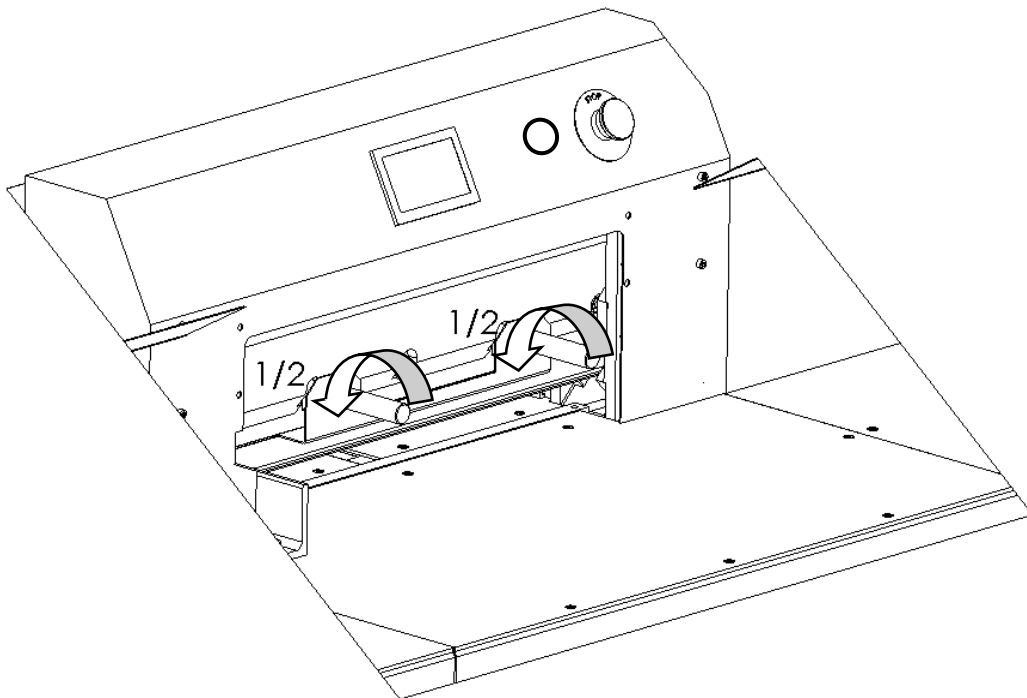
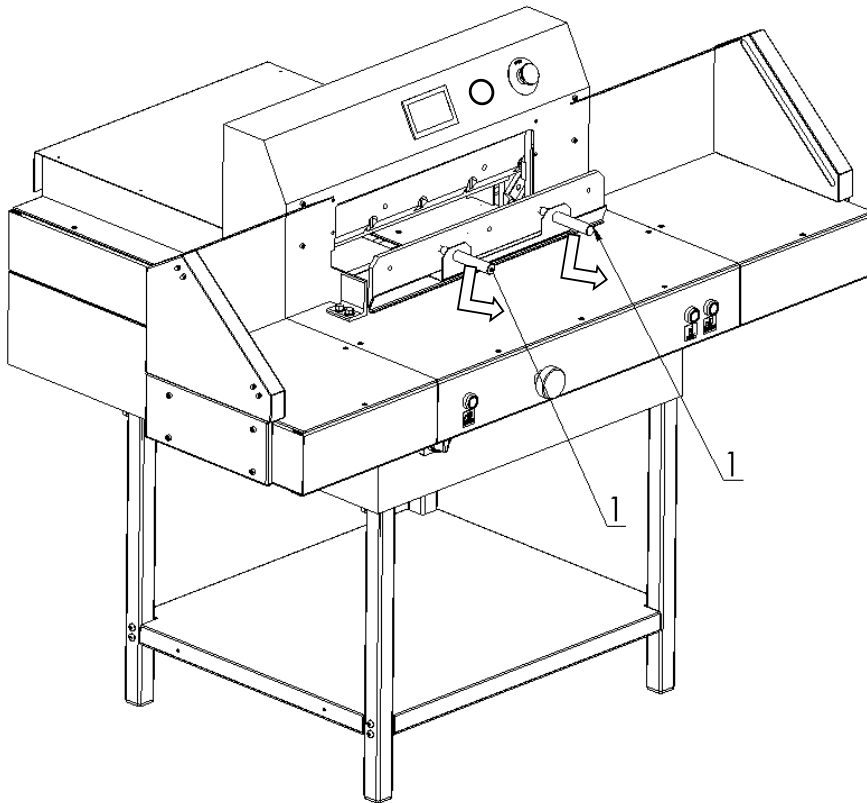
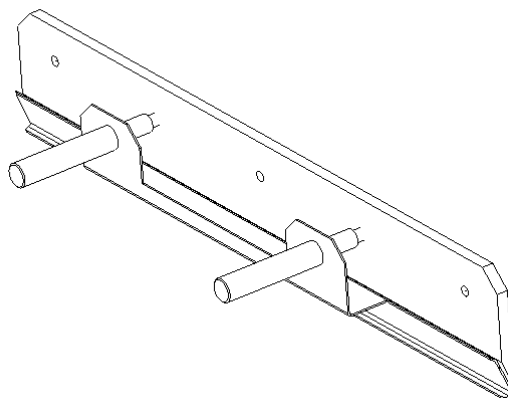

Figure 26.
Figure 27.
Figure. 28a. Knife in the transport handle
8.1.1.12 holding the transport handles release the clamp by turning them 1/2 turn at a time to the left (fig 26) and carefully pull the knife down (fig 27). Take the removed knife into the special protective packaging (Fig. 28a - 28d.) With the blade inwards and fasten it with two screws. To unscrew the bolts fixing the blade knife, use the RWTg 8 wrench provided on the cutter.
8.1.2.2. Remove the knife from the packaging (Fig.28a - 28d)